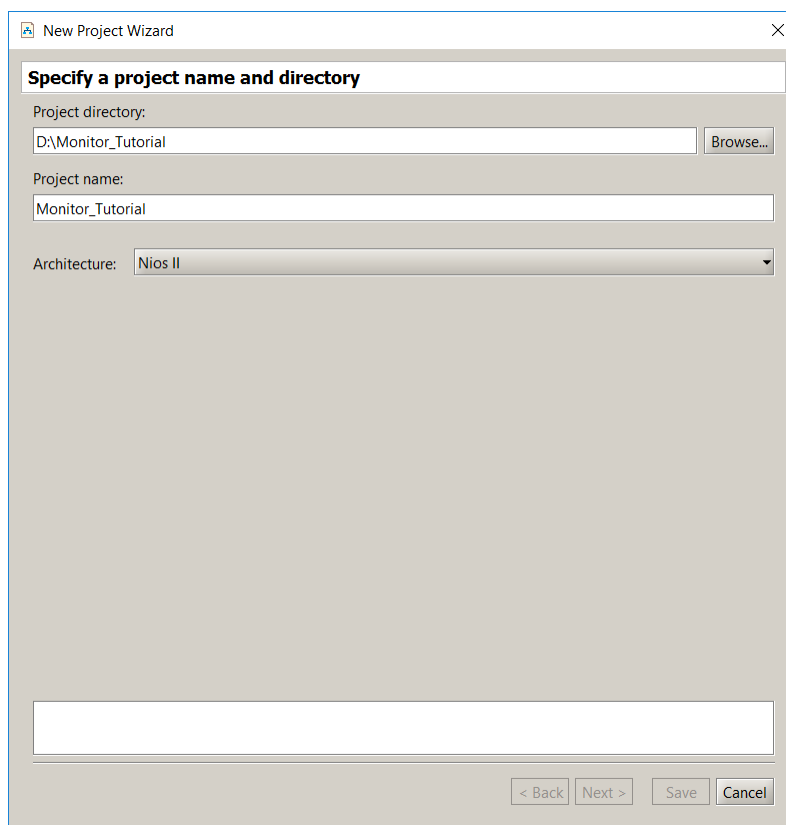

Figure 5. Specifying the project directory and name.
1. Select **File > New Project** to open the *New Project Wizard*, which leads to the screen in Figure 5. The Wizard presents a sequence of screens for defining a new project. Each screen includes a number of dialogs, as well as a message area at the bottom of the window. The message area is used to display error and information messages associated with the dialogs in the window. Double-clicking the mouse on an error message moves the cursor into the dialog box that contains the source of the error.
In Figure 5 we have specified the file system directory *D:\Monitor\_Tutorial* and the project name *Monitor\_Tutorial*. For simplicity, we have used a project name that matches the directory name, but this is not required.
The Monitor Program can be used with either an ARM\* based system or a Nios II-based system. The choice of a processor is made in the window in Figure 5 in the box labeled Architecture. We have chosen the Nios II architecture for this tutorial.